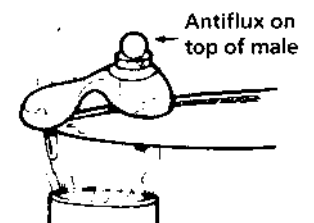

Fig. 5
8. Position the male on the presoldered coping surface. The male should be positioned slightly to the lingual to allow room for the denture teeth. Place the assembly in the reducing portion of the Bunsen burner flame until the solder flows (Fig. 5).